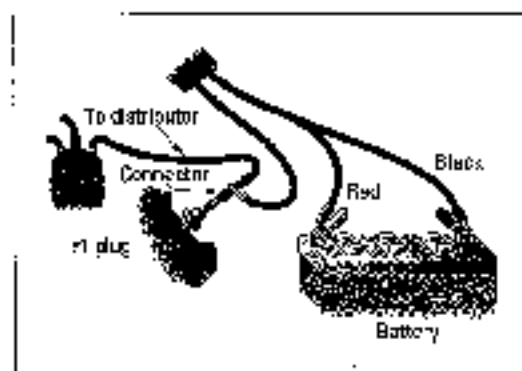

Figure 12-45:
Most lights have three clips on them. If you have no instructions, the ones in this book will work for most timing lights with three clips (see Figure 12-45).
4. Clamp the big red clip to the positive terminal of your car battery, as shown in Figure 12-45.
- You can remove the boot from the spark plug, put the clip on the terminal end of the plug that sticks out of the engine, and replace the boot so that it fits snugly and allows the current to pass through from the wire to the plug (refer to Figure 12-45).